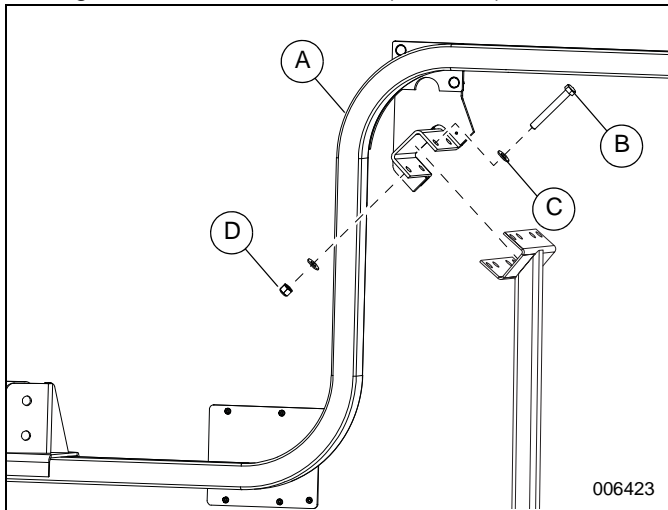

Figure 18. Bracket Installation
1. See Figure 18. Install new mounting weldment. Tighten hardware to 20 ft-lb (27.2 Nm).